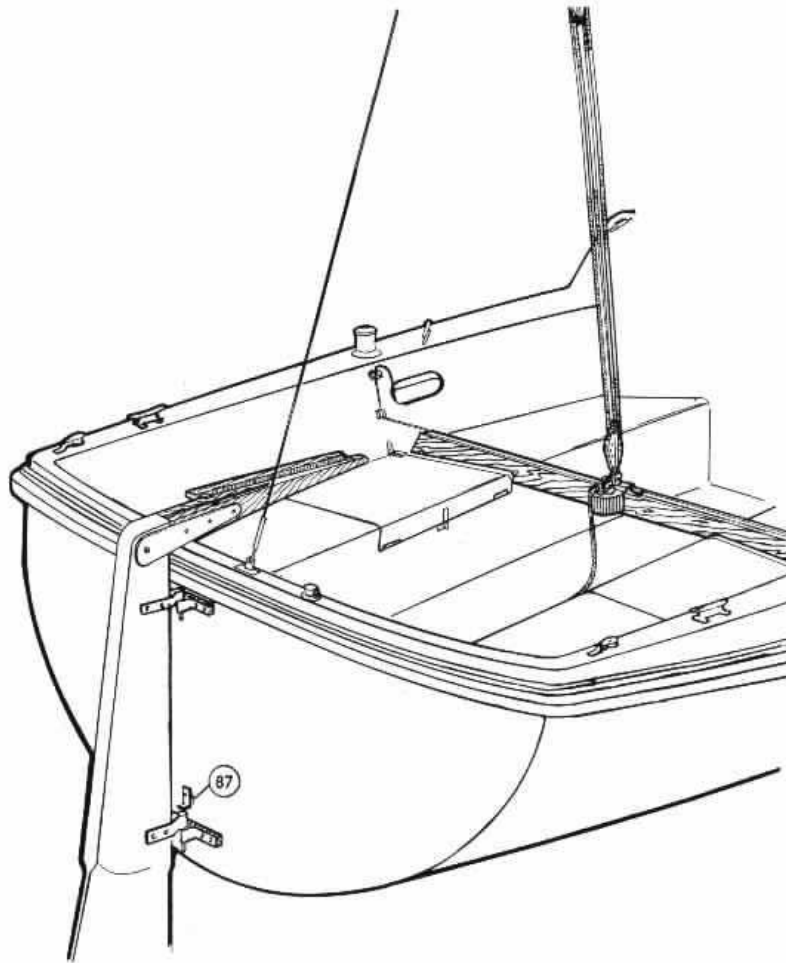

Fig. 1
The tiller should be bolted to the rudder with the bolt and lock nut provided as shown in Figure 1. The lock nut should be tightened so that the friction between the fibreglass rudder head and the aluminium cheeks of the tiller is sufficient to retain the tiller at any angle in the vertical plane. To facilitate the insertion of the rudder pintles in the gudgeons on the transom, the bottom pintle is slightly longer than the upper. This allows partial insertion of the bottom pintle without precisely lining up the upper pintle with the upper gudgeon. After installation the rudder retaining clip (87) (Figure 1) on the transom should be turned so as to prevent inadvertent removal of the pintles by wave action. The bolt of the retaining clip should be tightened periodically as necessary.
The rudder retaining clip (87) shown in Figure 1 is not installed on later models. Instead, the top rudder pintle is drilled to accept a split pin, which is supplied with the rudder. After the rudder is installed, insert the split pin and open slightly.